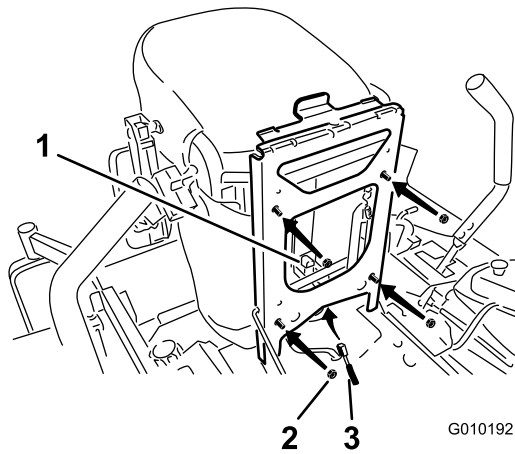

Figure 17
- Install the seat to the seat frame with 4 flange nuts (3/8 inch)—Figure 17.